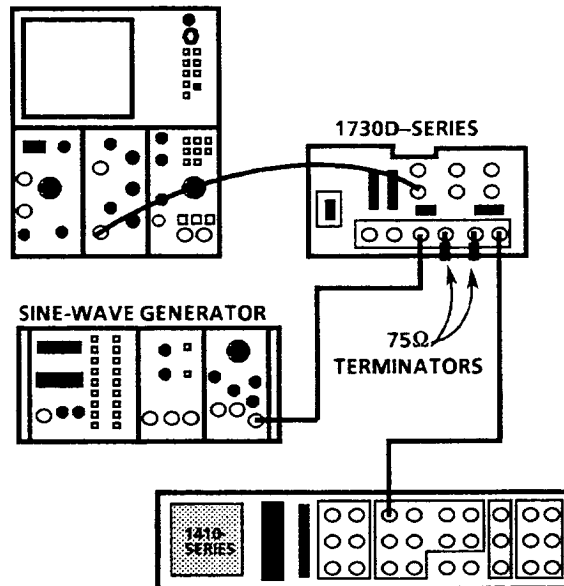

Figure 6–8: Equipment connections for checking flatness and PIX MON OUT frequency response
- a.** Connect the sine-wave generator signal output to the CH-2 ANALOG INPUT and terminate the loop-through in 75  $\Omega$ . See Figure 6–8.